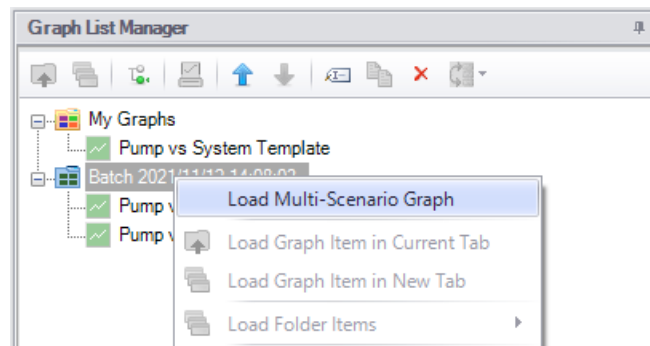

Figure 7: A Multi-Scenario Graph can be loaded from a Multi-Scenario graph folder
4. Once the run is complete, navigate to the Graph Results tab. In the Graph List Manager, there will be a Multi-Scenario Pump System Curve folder named with the date and time of the run. Right-click on the folder name and choose "Load Multi-Scenario Graph," as is shown in Figure 7.